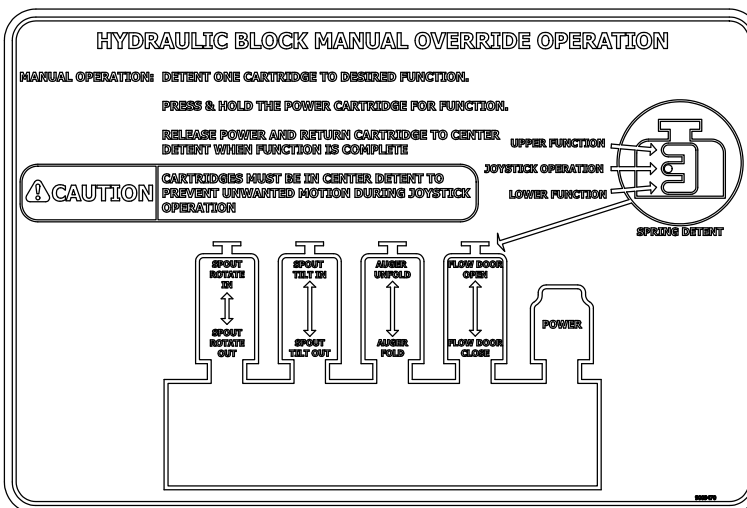

FIG. 3-12
1. Connect the red wire from power harness (9008402) to a key switched +12VDC power supply. (Fig. 3-12)
2. Connect the white wire from power harness (9008402) to ground. (Fig. 3-12)